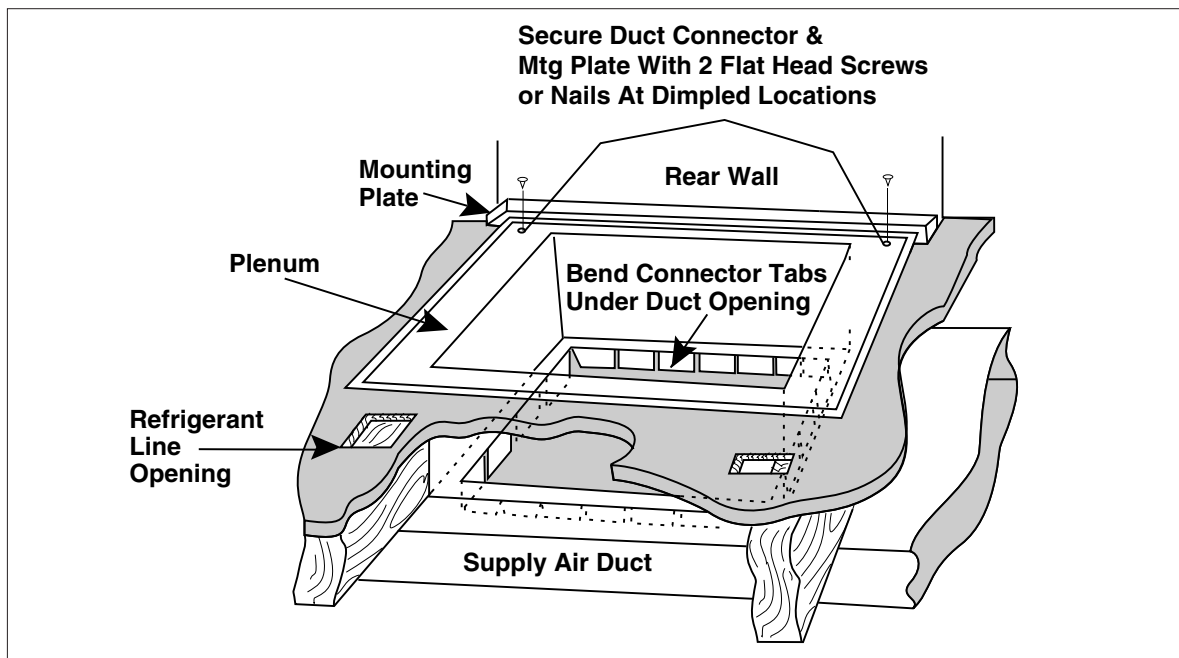

Figure 8. Duct Connector (Non Platinum)
4. Secure duct connector to floor with two flat-head fasteners at dimpled locations (see Figure 8).